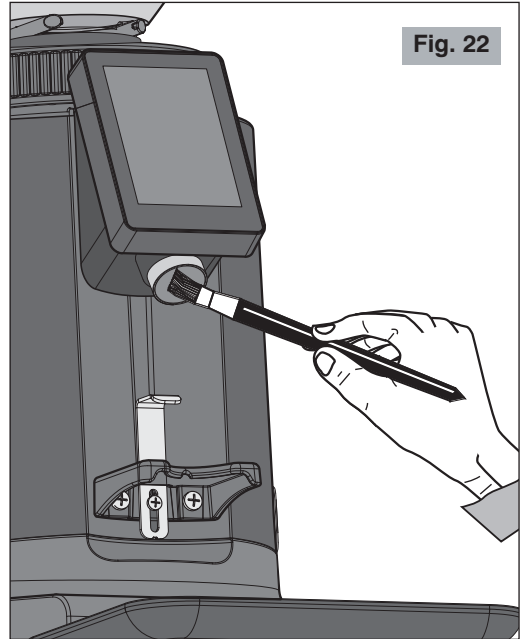

Fig. 22
- Use a brush or a paintbrush (Fig. 22) to clean the most hidden areas inside the unit and a dry cloth for the other surfaces.